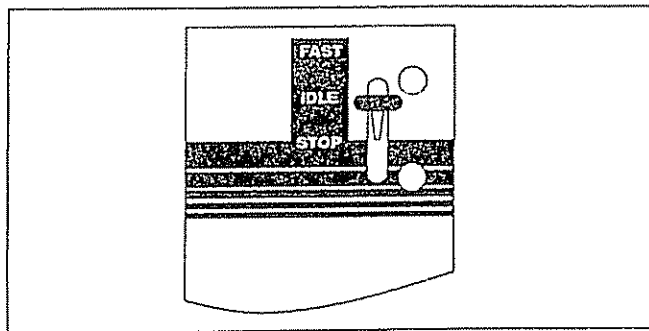

FIGURE 6
- To stop Engine, place Throttle Control (Fig. 6) in "STOP" position. NOTE: DO NOT USE CHOKE CONTROL TO STOP ENGINE.
- Place Throttle Control in "FAST" position (Fig. 6).